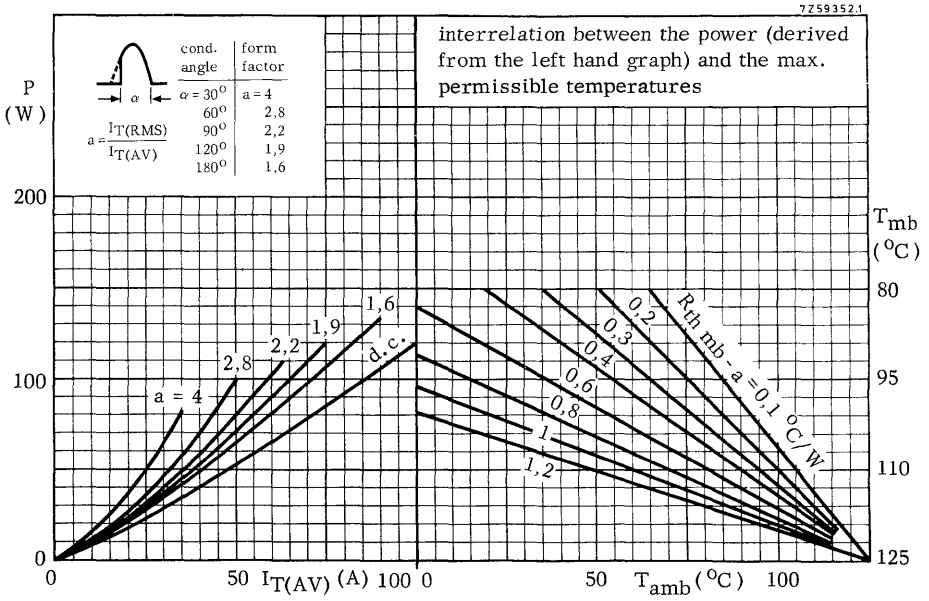
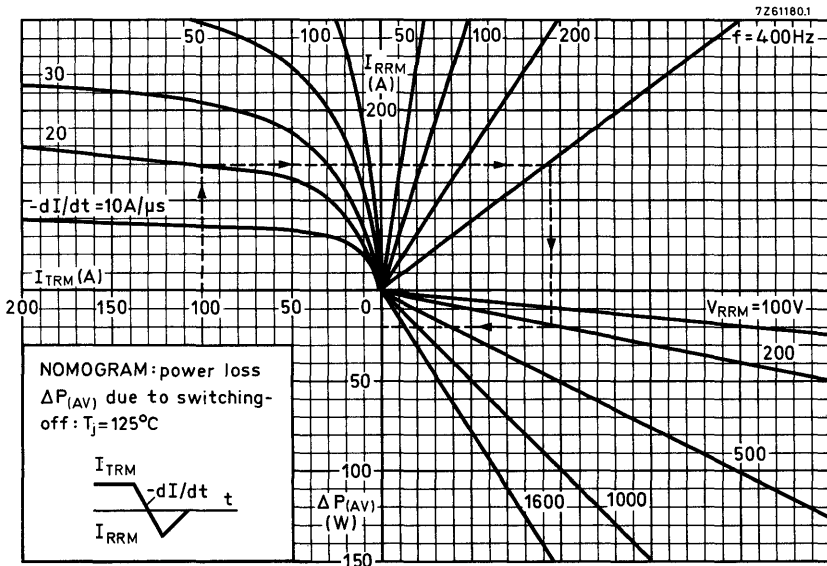

Fig. 4.
Fig. 14.
* To ensure thermal stability: $R_{th\ j-a} < 0,75$ °C/W (d.c. blocking) or $< 1,5$ °C/W (a.c.). For smaller heatsinks $T_{j\ max}$ should be derated. For a.c. see Fig. 4.
For applications in which the thyristor is forced to switch from an on-state current I_{TRM} to a high reverse voltage at a high commutation rate ($-dI_T/dt$), consult Fig. 14 (nomogram) to find the increase in total average power. This increase must be added to the loss from the curves in Fig. 4.